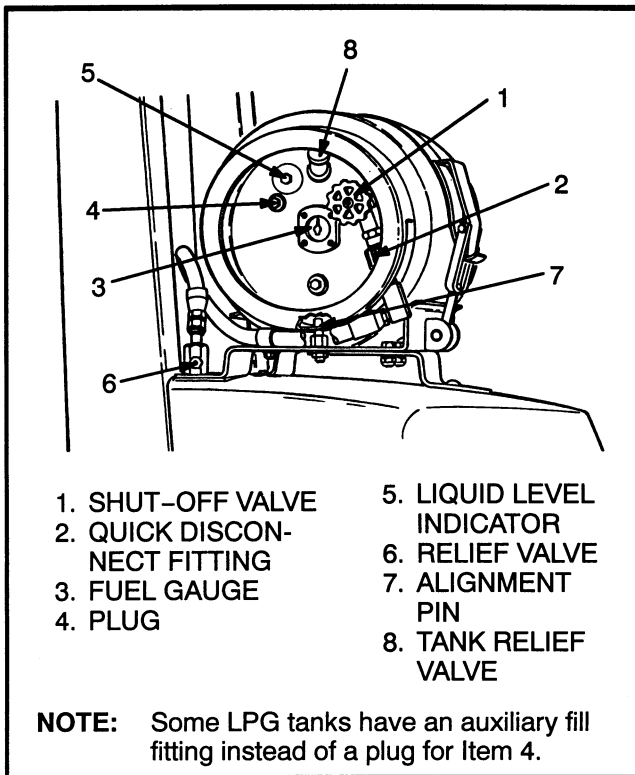

FIGURE 12. LPG TANK
Removal (See FIGURE 12.)
**Installation (See FIGURE 12.)**